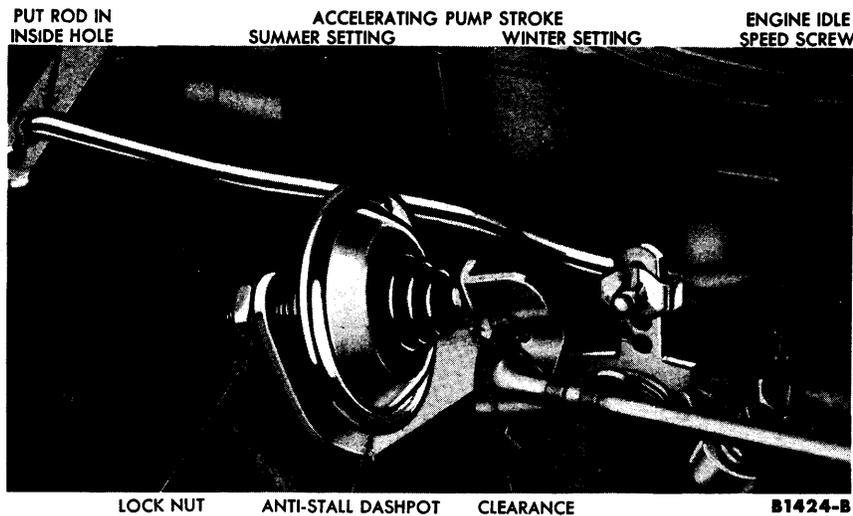

FIG. 5—Idle Adjustments
2. Attach a tachometer to the engine. Set the parking brake. Place the transmission selector lever in drive range. Check the engine idle speed. Adjust the engine idle speed to drive range specifications by turning the screw in to increase the speed or by turning the screw out to decrease the speed (Fig. 5).
1. With the engine idle speed and idle mixture properly adjusted, and the engine at normal operating temperature, loosen the anti-stall dashpot lock nut (Fig. 5).
The over-travel lever has 4 holes and the accelerating pump link has 2 holes to control the accelerating pump stroke for different engine applications (Fig. 5). Install the accelerating pump operating rod in the No. 3 hole for winter operation or in the No. 1 hole for normal summer operation in the over-travel lever. Install the accelerating pump operating rod in the inside hole in the accelerating pump link for all climatic conditions. **The accelerating pump operating rod may be installed in the No. 2 hole in the over-travel lever to suit operating or intermediate climatic conditions.**